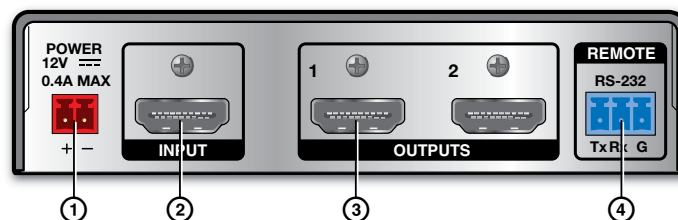
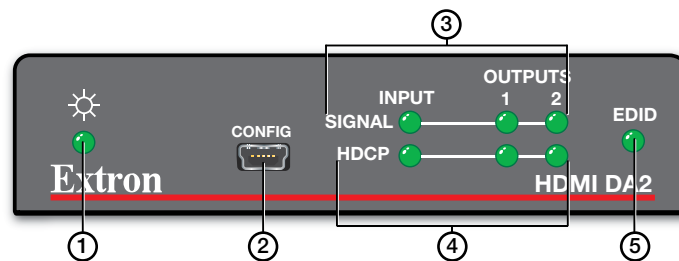

Figure 2. HDMI DA2 Rear Panel
Figure 7. HDMI DA2 Front Panel
Use an HDMI cable to connect the input source to the female HDMI socket on the rear panel (② in figure 2 on page 3).
Use a HDMI cable to connect up to two output displays to the female HDMI sockets on the rear panel (③ in figure 2 on page 3).
The computer connects to either the rear panel 3-pole RS-232 port (④ in figure 2 on page 3) or the front panel USB port (② in figure 7 on page 10) of the distribution amplifier.
The mini Type B USB port is located on the HDMI DA2 front panel (② in figure 7 on page 10). It can be used to connect the distribution amplifier to a host computer to update firmware or for configuration using SIS commands.